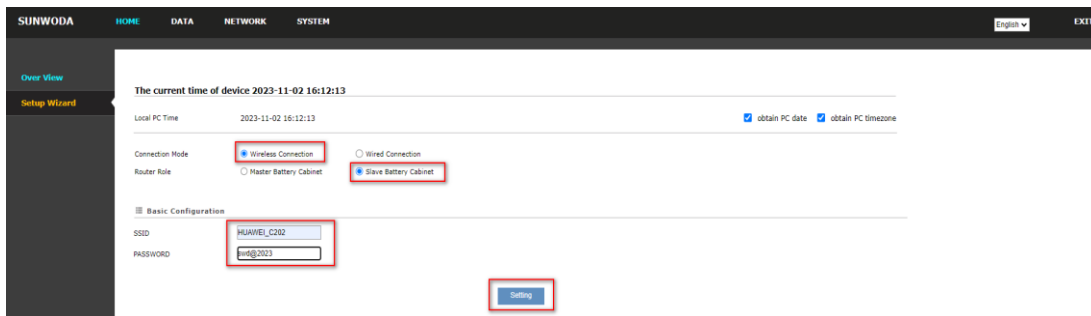

Figure. 4.12
(6) Connect one control box of slave cabinet LAN port to the PC computer network port through the RJ45 network port connector (8P), open the Google Chrome browser and enter the URL 192.168.5.5, user name: user, password: password.
(7) Set the network access method in the following page: Wireless, Slave Cabinet, and enter the LAN WIFI name and password emitted from the master cabinet in step (5) below, and click Set (Fig.4.12). After completion, if prompted to restart the device, please be patient. After successful setup, the IP automatically jumps to 192.168.6.5.